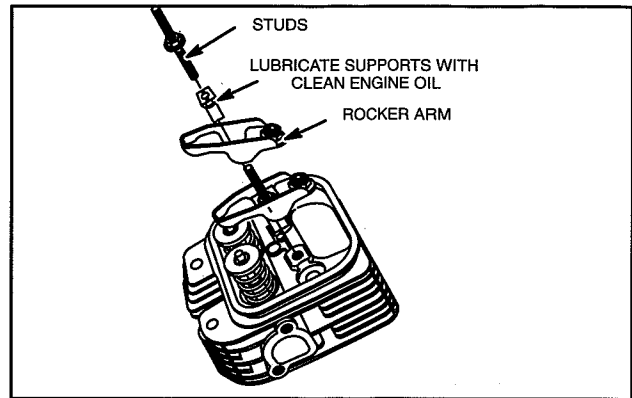

Fig. 14 – Install Rocker Arms – Current Style
2. Assemble rocker studs, rocker arm supports and rocker arms to cylinder head, Fig. 14.